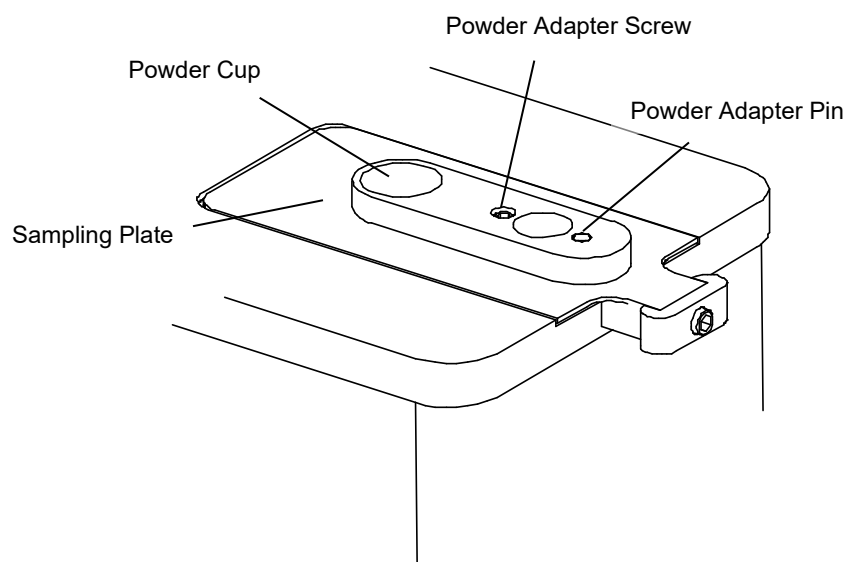
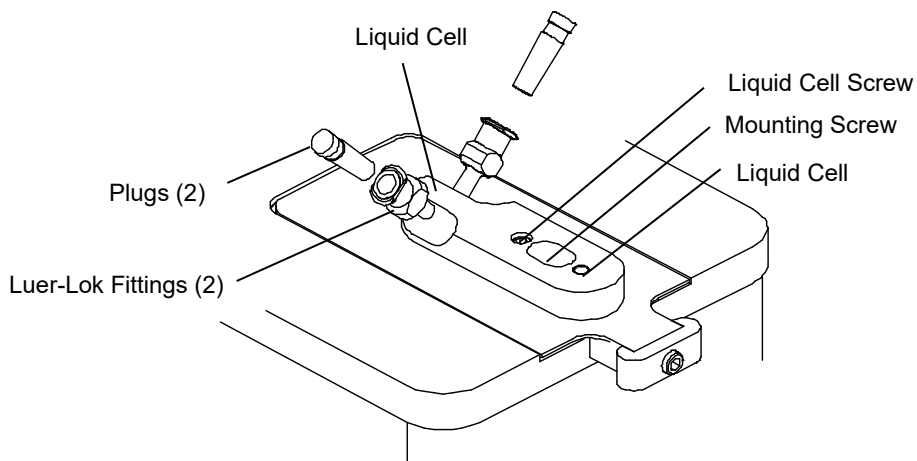

Figure 13 • The Powder Adapter
Figure 14 • Liquid Cell Setup for Static Applications
- Position the powder adapter on the sampling plate as shown in Figure 13. Engage the pin on the bottom of the powder adapter in the hole on the sampling plate.
- Position the liquid cell on the sampling plate as shown in Figure 14. Engage the pin on the bottom of the liquid cell in the hole on the sampling plate.
The liquid cell can be used for static (Figure 13) and flow through (Figure 14) applications.